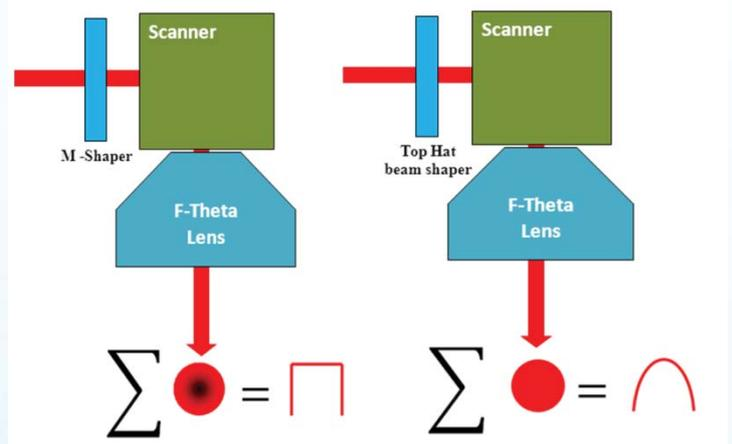

Figure 2 – Schematic set-up and integrated (Σ) intensity profile across scan direction. Left: with M-Shaper, Right: with flat-top beam shaper.
- c. Use a scanner lens (i.e. F-Theta lens) in order to achieve a well-focused spot at a certain distance, for all scanning angles, as shown in Fig.2.